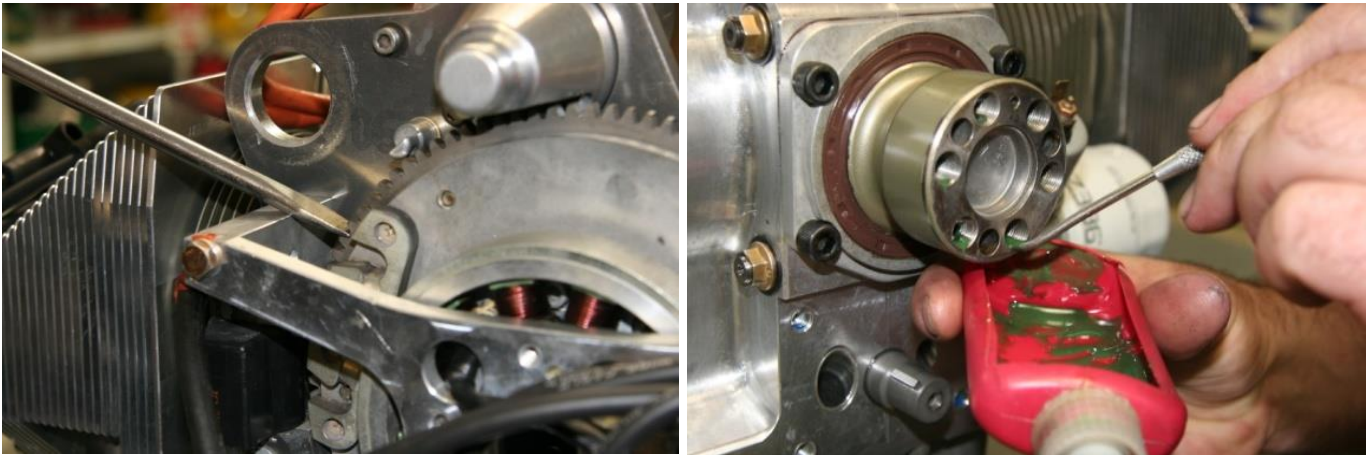

Figure 206 – Preparing To Fit Propeller Flange
- Fill the seal with high temperature grease or commercial seal lube and fit the housing to the engine as shown in Figure 206 (right). Note the orientation of the housing. Use 4 off 5/16” cap screws with Loctite 243 on the threads. Note that earlier engines used 1/4” screws. Either type assembly is acceptable.
Apply the same amount (approximately the size of a large match head) of Loctite 620 to the threads in the crankshaft. Apply the compound as shown in Figure 206: Use a scribe or small probe to apply the Loctite to the threads inside the crankshaft. Apply in the range 1 – 6mm from the front face of the crank.